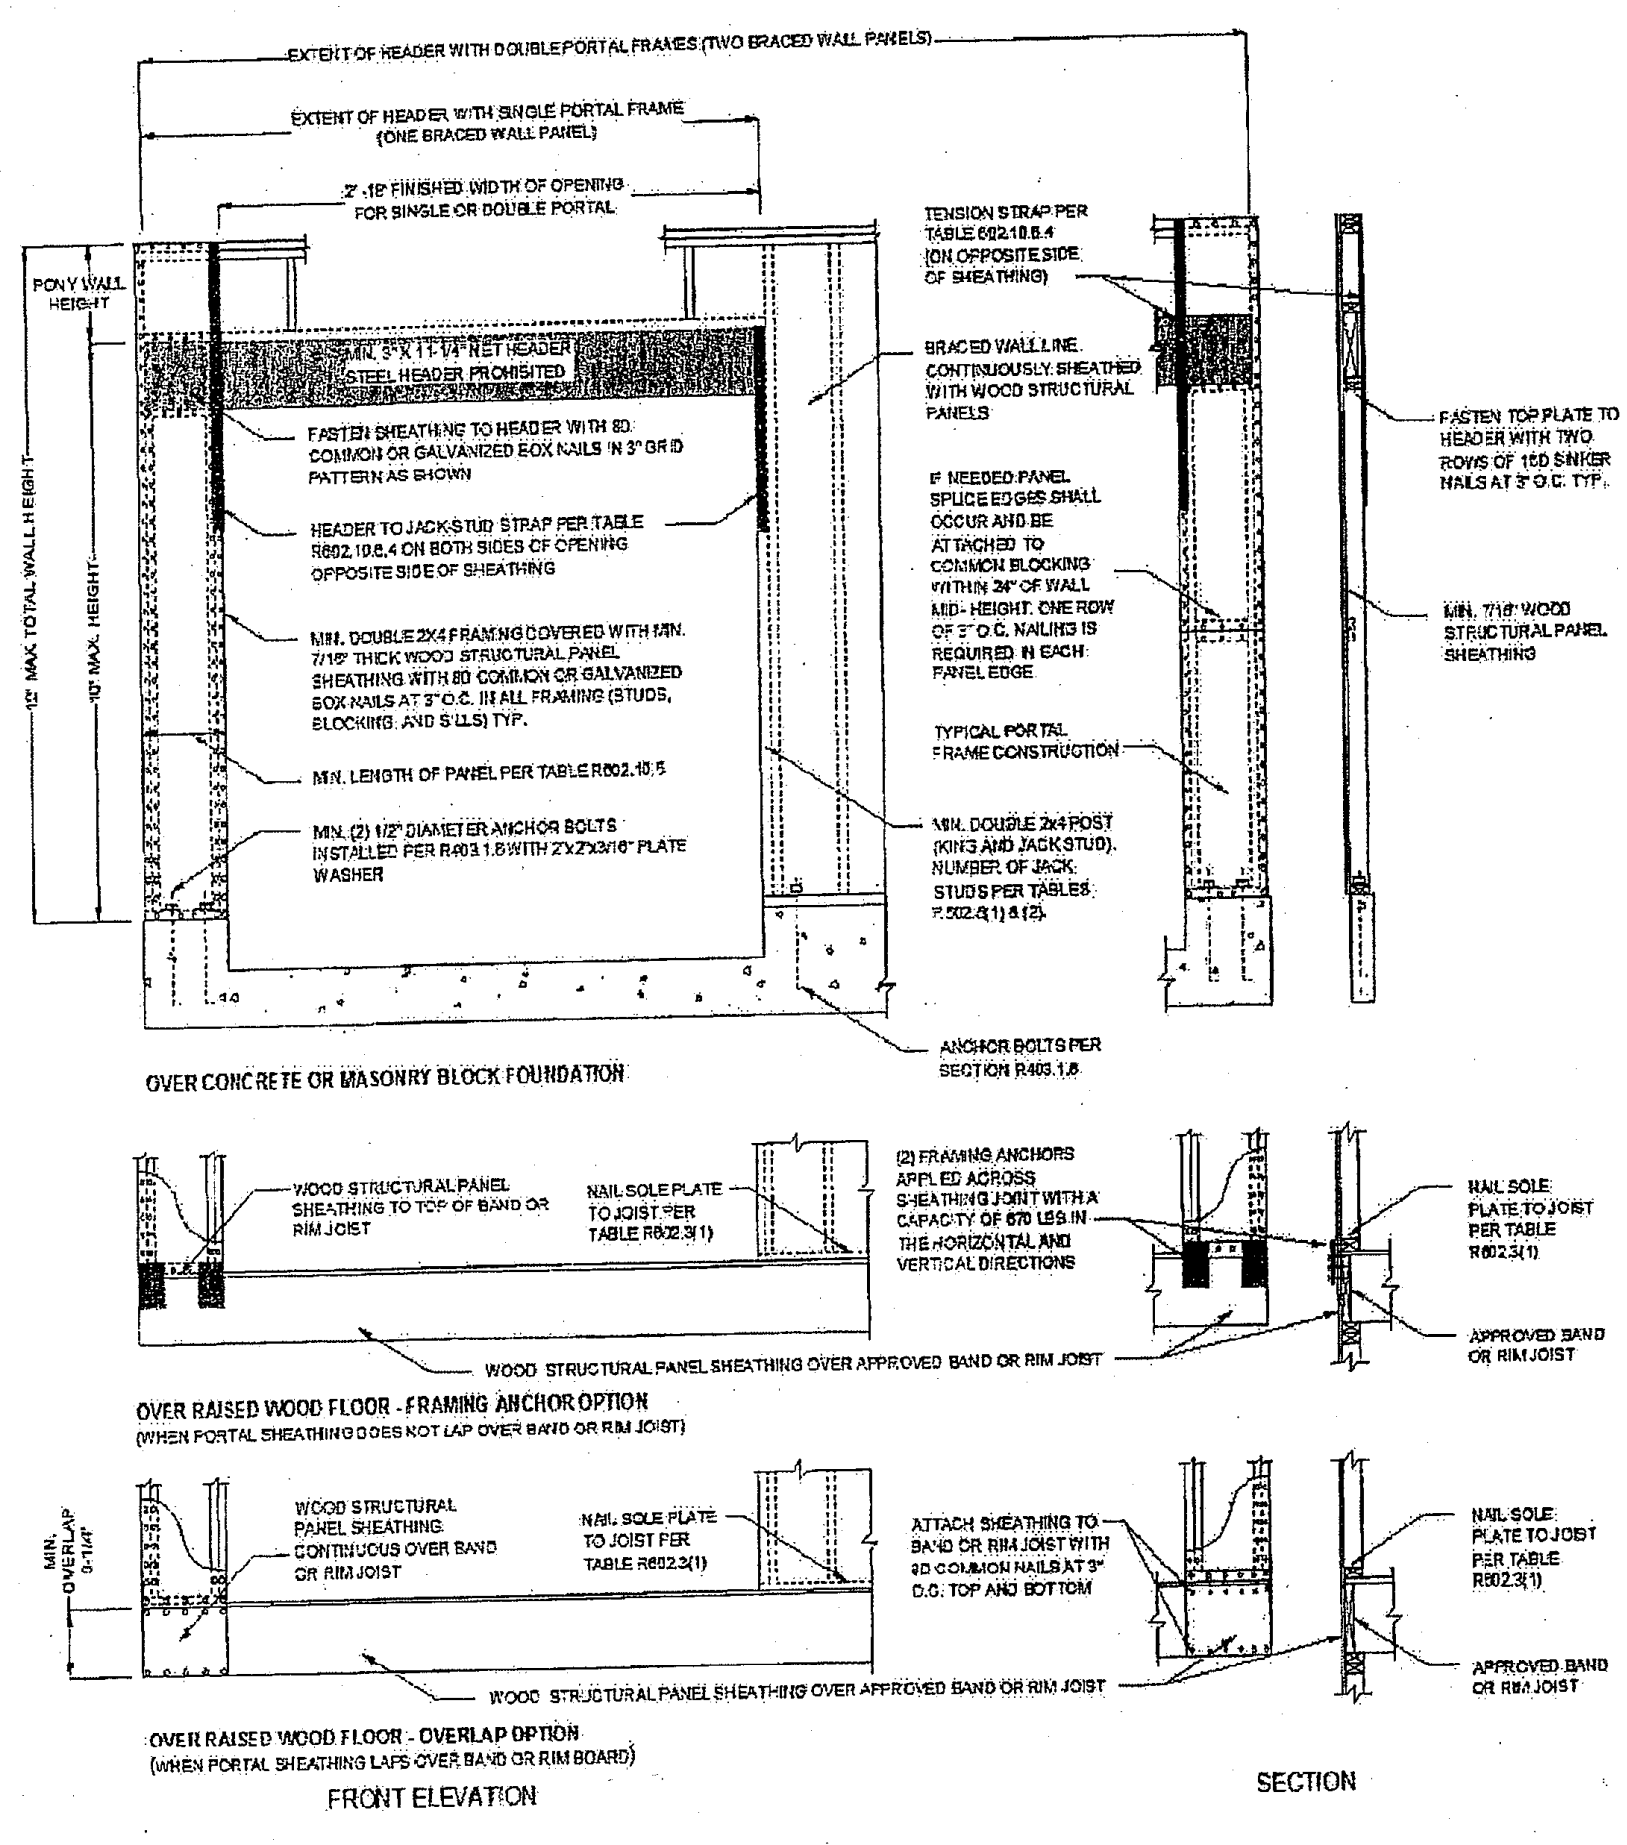

FIGURE R602.10.6.4
c. Maximum header height for FFH is 10 feet in accordance with Figure R602.10.6.2, but wall height may be increased to 12 feet with pony wall.
d. Maximum opening height for PFG is 10 feet in accordance with Figure R602.10.6.3, but wall height may be increased to 12 feet with pony wall.